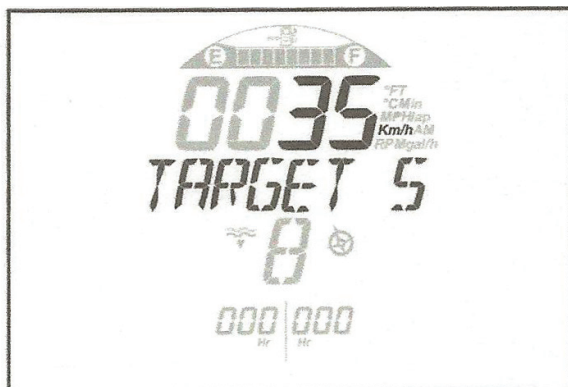

Figure D12: TARGET SPEED Displayed (Ski Mode)
- e. Now determine the target speed using ADJUST (Up and Down) switch. See Figure D12.